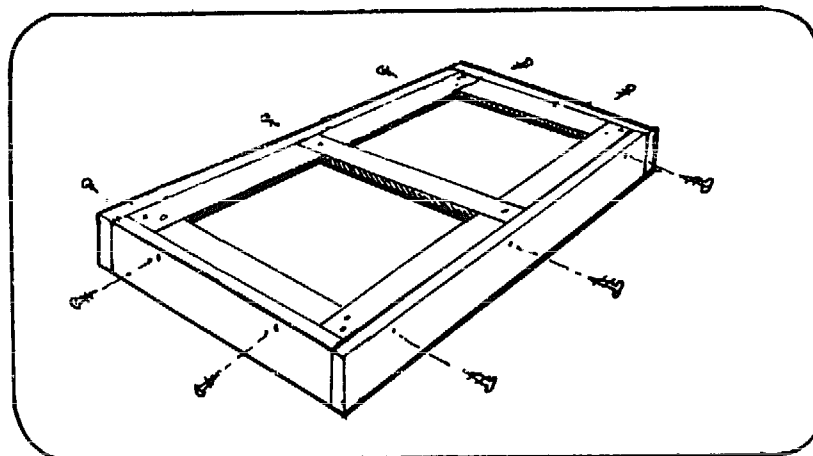

Figure 4
- 3.2 Set glazing frame built in Step 2 onto the collector box. Drill pilot holes in side pieces. Screw and glue side pieces to the frame as shown in Figure 4. Put finish nails between screws to strengthen.